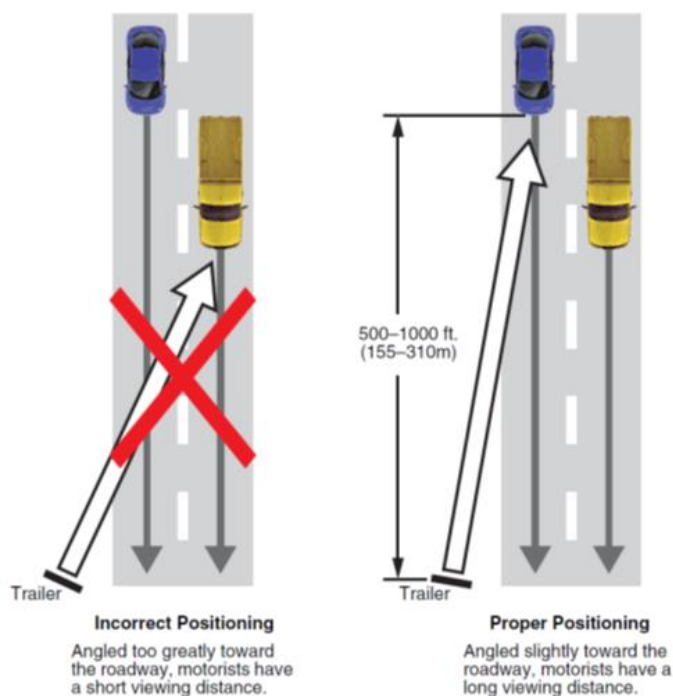

Figure 3: Angling trailer towards roadway.
- Angle the trailer slightly toward the roadway, as indicated in Figure 3 below.